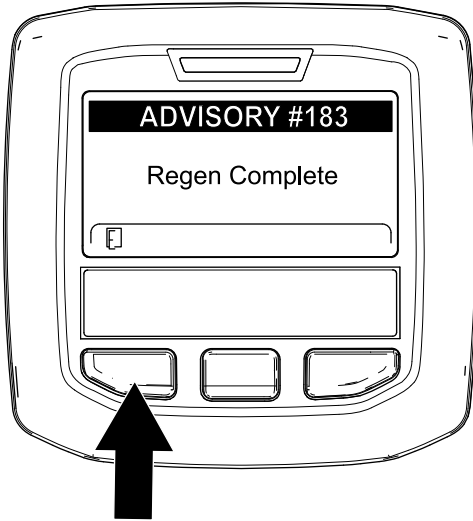

Figure 68
9. When the engine computer completes a parked or recovery regeneration, the InfoCenter displays ADVISORY #183 (Figure 68). Press the left button to exit to the home screen.